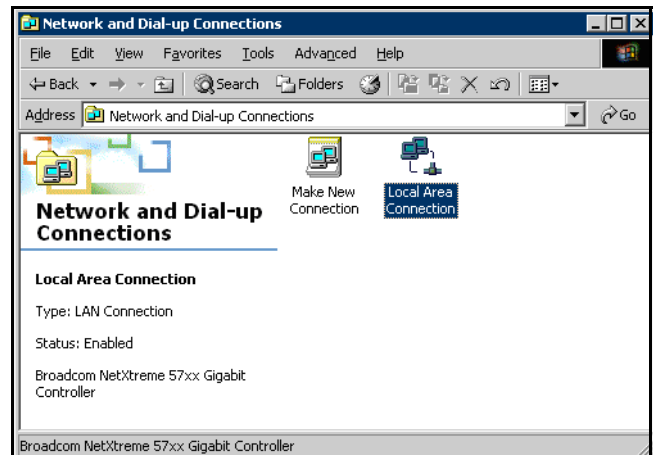

Fig. 4. Network and Dial-up Connections Window.
1. Open the **Network and Dial-up Connections** window. (Location: **Start > Programs > Accessories > Communications**). The window shown in Figure 4 should appear.